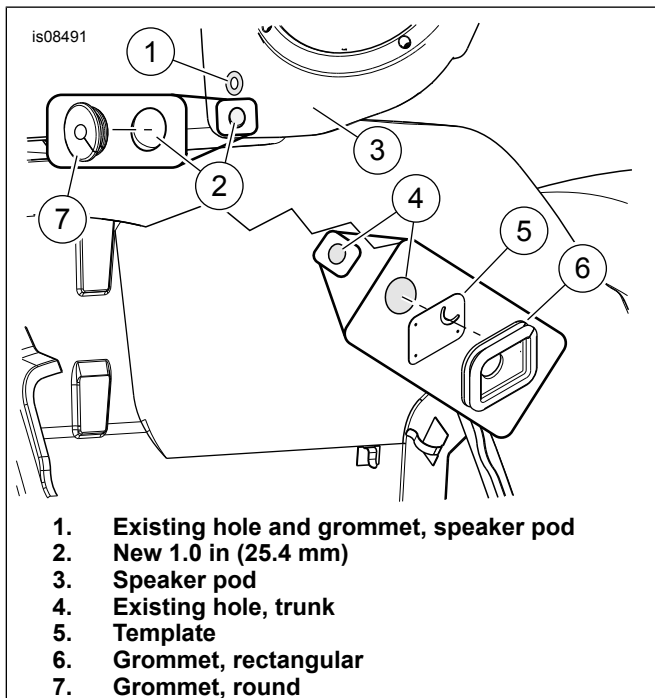
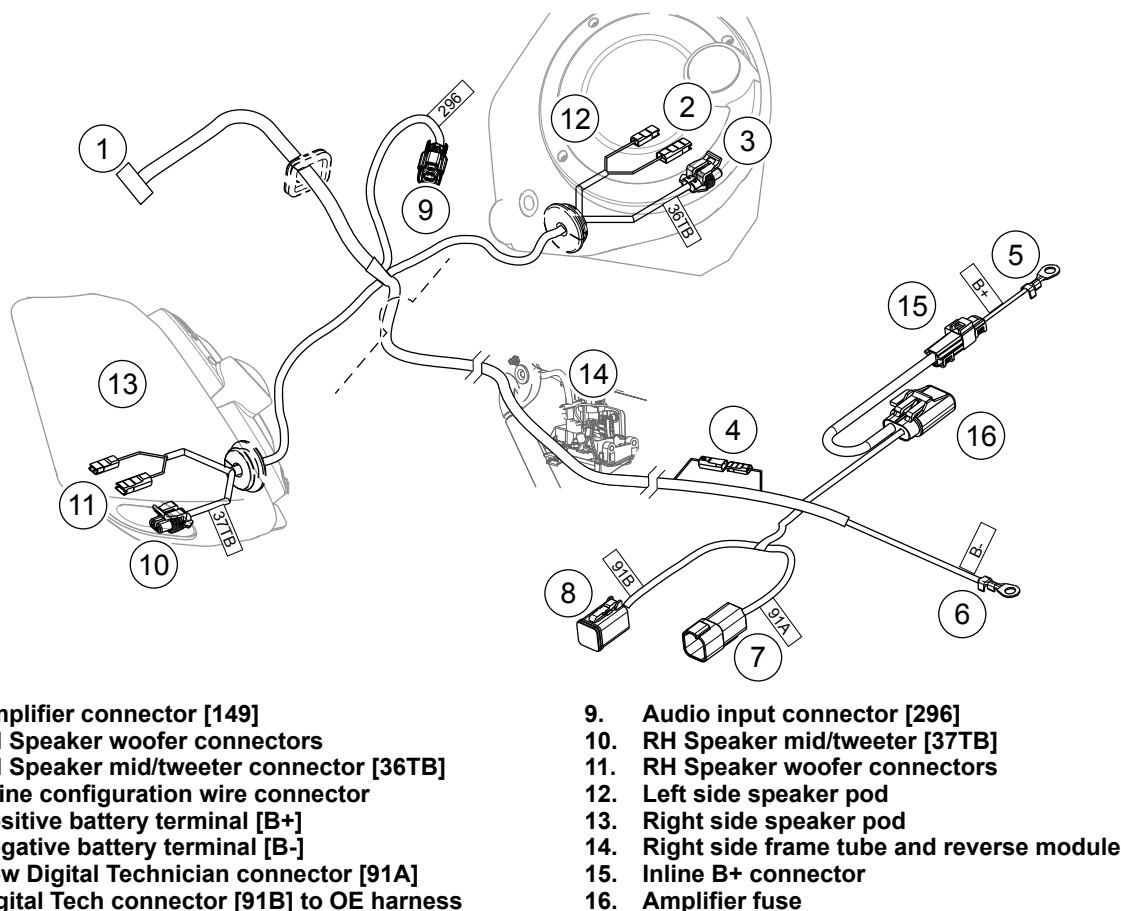

Figure 1. Grommet Installation
Figure 3. Wire Harness
1. Cut hole for rectangular grommet (9). See Figure 1.
- a. Remove and discard grommet from existing hole (4). Align template (5) over existing hole so the upper right of the template edge aligns with hole. The existing hole becomes the upper edge of the new rectangular hole.
7. See Figure 3. Route wire harness to speaker pods (12 and 13) and through grommets (7).
8. Route wire harness through grommet (9) and to amplifier. Attach harness to amplifier.
9. See Figure 1. Install round grommets. Install rectangular grommet.